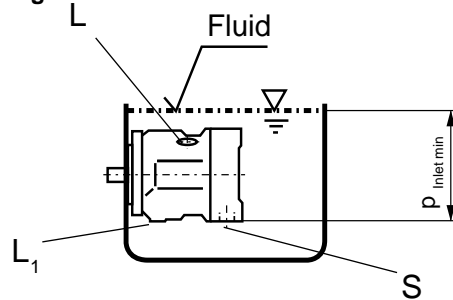

Fig. 3
a) If the minimum fluid level is above the top of the pump leave ports "L", "L1" and "S" open (see Fig. 3)